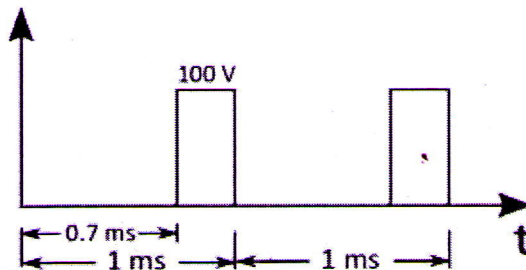

Fig.1
| 7 | In a step-down chopper, voltage across the controlled switch is given in Fig.1. Determine the average output voltage. | (5) |